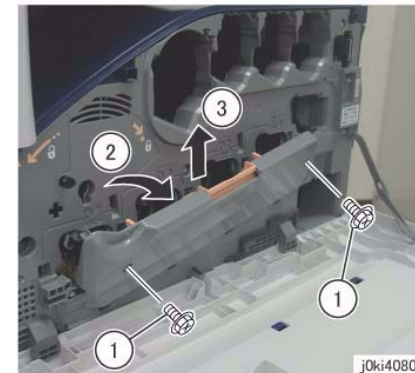

Figure 1 Remove the Drum Cover
4. Remove the Drum Cover. (Figure 1)